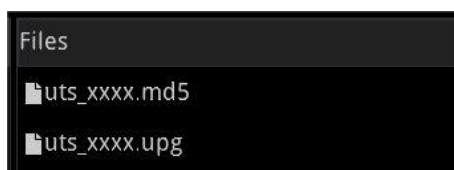

Figure 2-2 Upgrade Package
1. Decompress the upgrade package to the root directory of a USB flash drive. The package contains two files, "xxxx.md5" and "xxxx.upg," as shown in Figure 2-2.